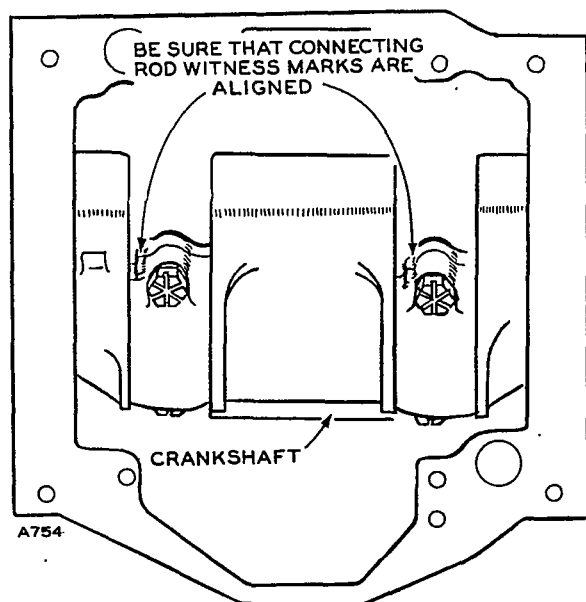

FIGURE 76. CONNECTING ROD WITNESS MARKS
5. Position each connecting rod on the crankshaft, oil the journal and install its rod cap with bearing half. When installing the rod cap, position so the raised witness mark on the forging matches the mark on the connecting rod (Figure 76).